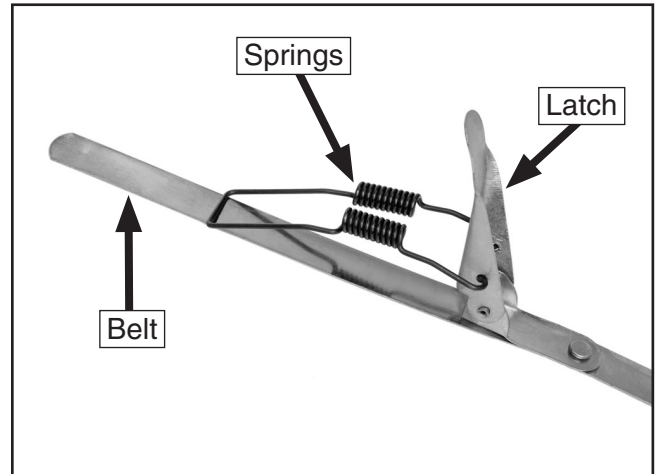

Figure 13. Correct bag clamp spring position.
3. Bag clamp springs should be located between the belt and latch (**Figure 13**); if not, the bag clamp will not work. Adjust the springs if needed.